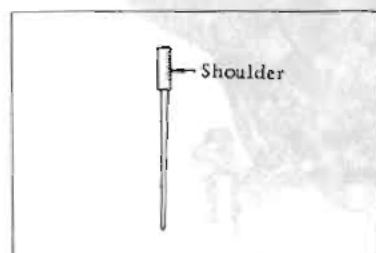

Fig. EF-50 Jet needle
3. To remove these components, place the suction chamber and suction piston on a flat work bench so that the inside of the suction chamber and the sliding part of the suction piston are not damaged. Be extremely careful not to bend the jet needle on the lower part of the suction piston. (See figure EF-50.)